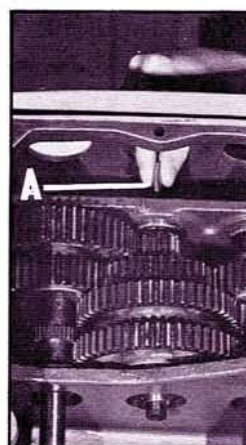

**Fig. 3**
3. Tap the rear end of the cam shaft (A) Fig. 3, at the rear of the head to free the cam shaft. Then remove the three oiler caps (B) by knocking them straight up and out.